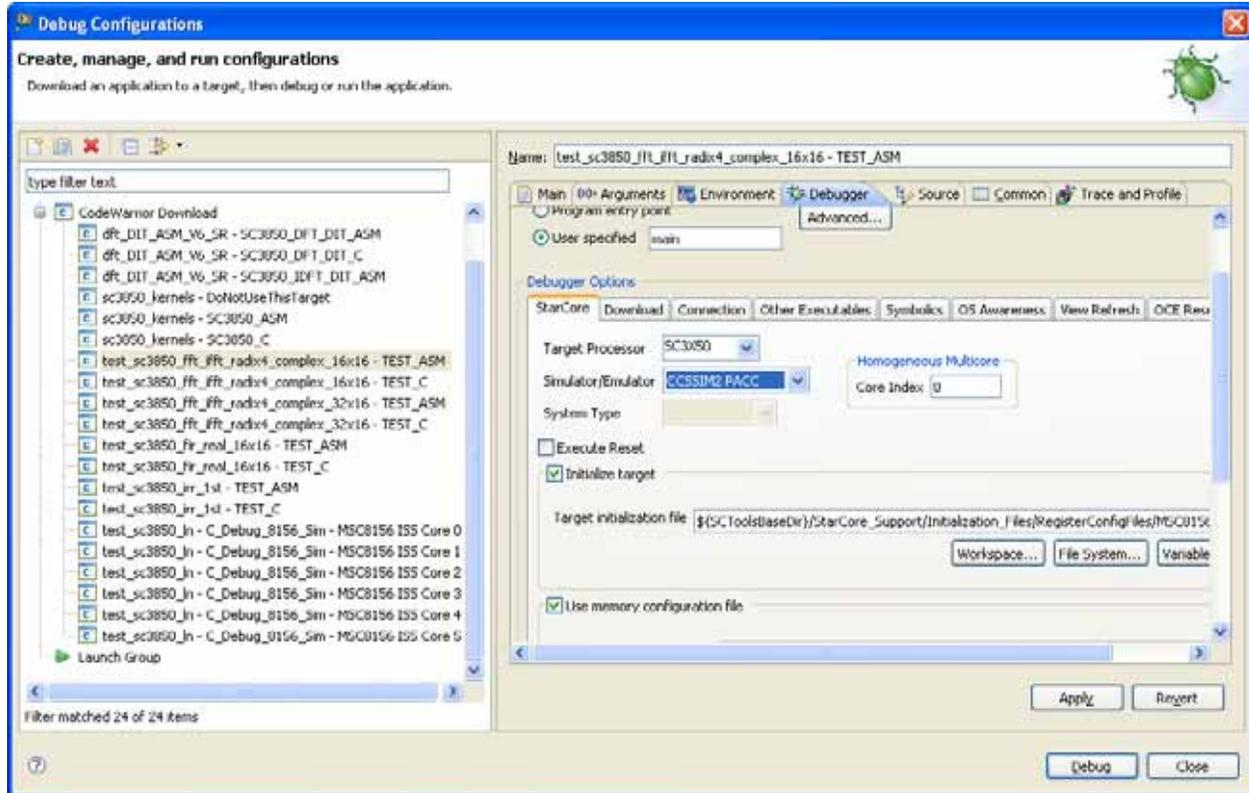

Figure 12. Debug configuration on SC3850 PACC simulator
- Click the StarCore tab in the Debugger page. Select SC3x50 for target processor and CCSIM2 PACC for simulator/emulator, as shown in Figure 12.